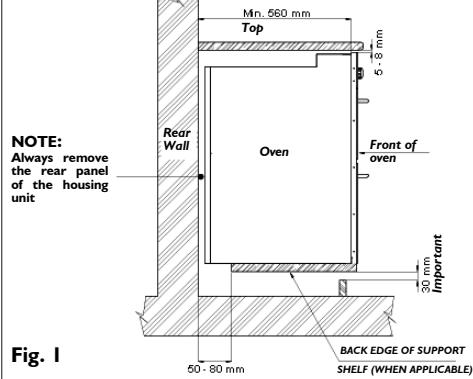

Fig. 1
- For correct ventilation, follow the ventilation opening directions shown in the figure 1.